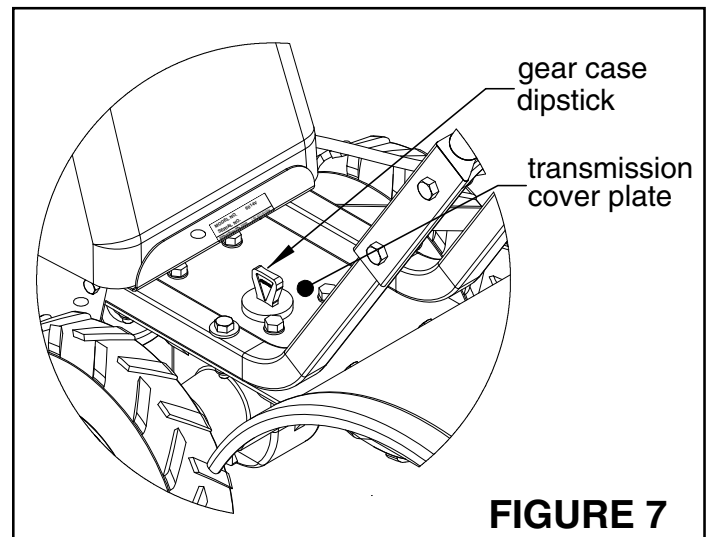

FIGURE 7
2. Remove grease level dipstick located between the handlebar mounts on the engine mount. Correct grease level is indicated between the high and low levels on the dipstick. **(SEE FIGURE 7)**